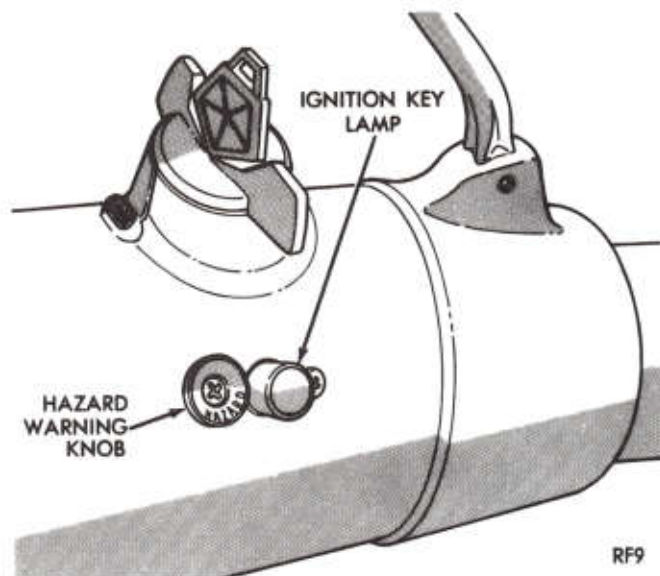
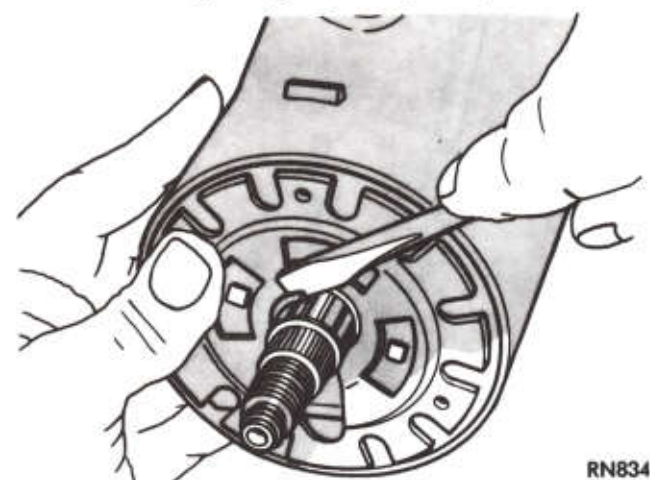
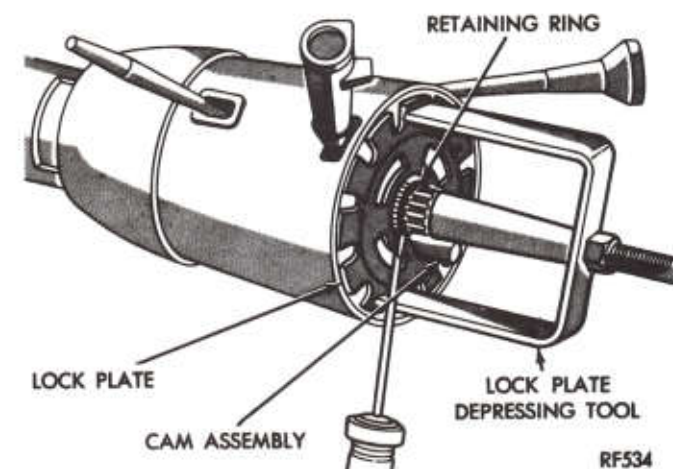

Fig. 2—Ignition Key Lamp
Fig. 3—Lock Plate Retaining Ring
Fig. 4—Removing Lock Plate Retaining Ring with Special Tool
- (1) Remove four bolts attaching bracket assembly to column jacket.
- (2) Remove the wiring protector from column jacket.
- (3) Attach column Holding Fixture C-4132 to jacket.
- (4) Mount column in vise with holding fixture.
- (5) Remove tilt lever and turn signal lever or speed control lever (see "Electrical—Group 8). Push hazard warning knob in and unscrew to remove. Remove ignition key lamp assembly (Fig. 2).
- (6) Move tilt mechanism to full down tilt.
- (7) Carefully remove plastic cover from lock plate. Depress lock plate or canceling cam retainer, with finger and pry remaining ring out of groove with screwdriver (Fig. 3). Tool C-4156 and C-4156-2 can be used (Fig. 4) but the full load of the upper bearing spring should not be relieved as the retaining ring will turn easily making removal more difficult. Remove lock plate or canceling cam retainer, canceling cam, and upper bearing spring.